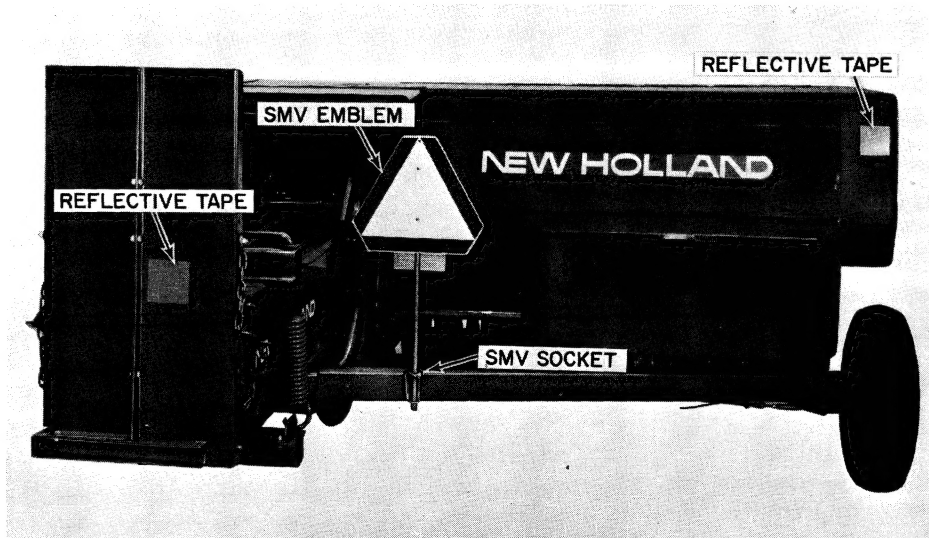

FIGURE 5
1. Reflective tape is provided in the two locations indicated in Figure 5.
2. A socket located on the baler frame facilitates the installation of the SMV (slow moving vehicle) emblem as shown in Figure 5.